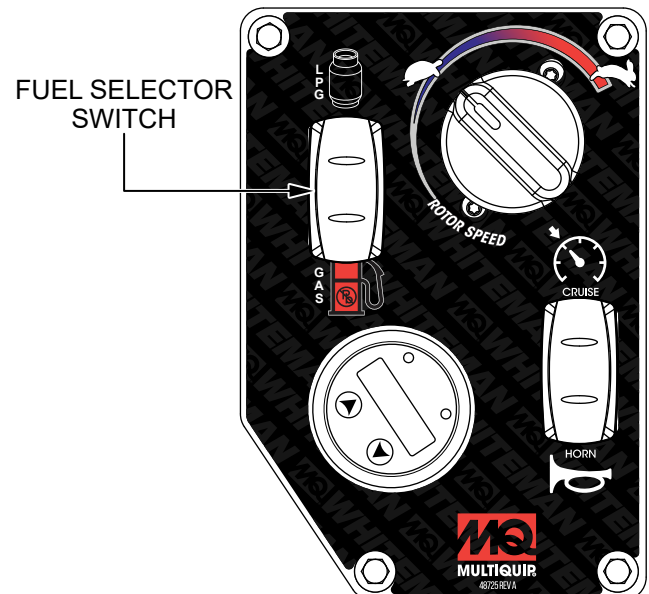

Figure 24. Fuel Selector Switch
1. Use the **fuel selector switch** (Figure 24) to select **GAS** or **LPG** fuel mode. The **LED light** on the switch will turn **ON** when **LPG** is selected, and will turn **OFF** when **gasoline** is selected.